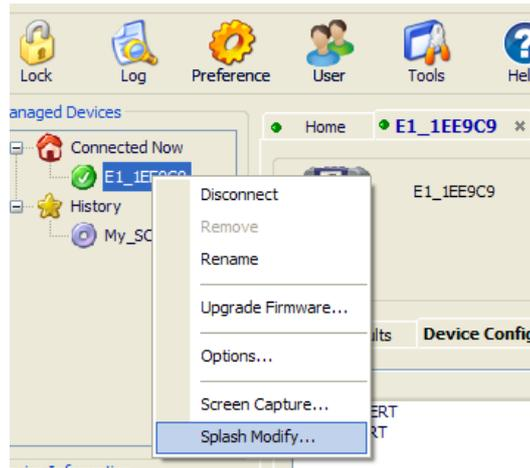

Figure 17 Splash Modify menu
- 1 In the left pane, under “Connected Now”, right click on the unit where you want the splash screen to appear, and then click **Splash Modify**, as shown in Figure 17.